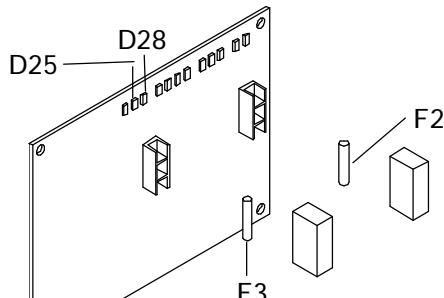

Fig. 22
- a) Check the lighting up of the leds D25 and D28 on the printed circuit card (code 02E03947, tav. 7). If not, check the fuses F2 and F3 on the printed circuit board (Fig. 22).